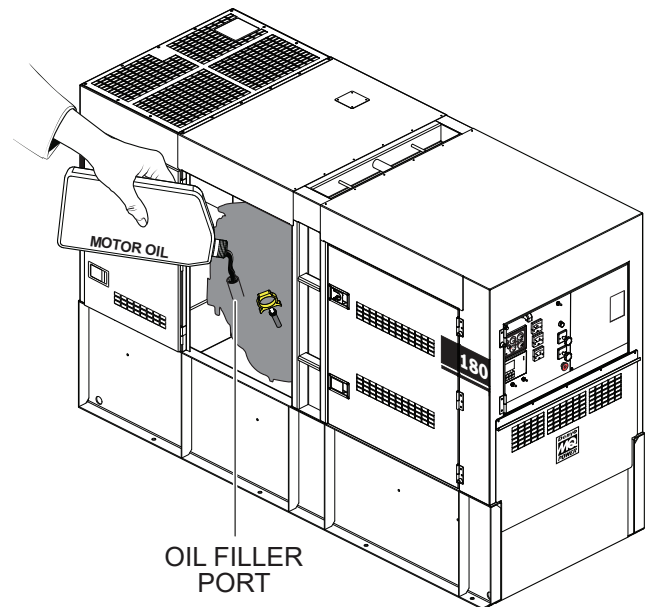

Figure 37. Engine Oil Filler Port
5. If the engine oil level is low (Figure 36C), remove the cap from the oil filler port (Figure 37) and fill to a safe operating level (max) as indicated by the dipstick (Figure 36A). Fill with recommended type oil as listed in Table 10. Maximum oil capacity is 8.58 gallons (32.5 liters).